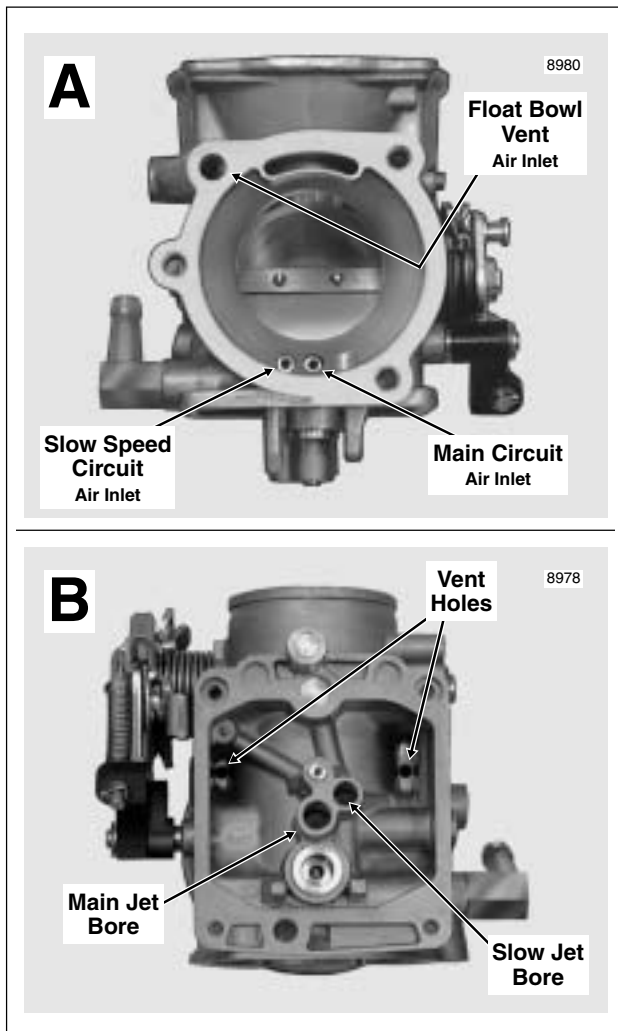

Figure 4-12. Clean Air/Fuel Passages
- a. Spray carburetor cleaner into air inlet hole of slow speed circuit. See A of Figure 4-12. While spraying, verify that solution exits slow jet bore at bottom of carburetor housing. See B of Figure 4-12. Placing gloved finger over slow jet bore, verify that solution exits four pin holes just inboard of the throttle plate, as well as the single pin hole outboard of the throttle plate.
- a. Plugging main jet hole in carburetor throat, spray carburetor cleaner into air inlet hole of main circuit. See A of Figure 4-12. While spraying, verify that solution exits main jet bore at bottom of carburetor housing. See B of Figure 4-12.
- a. Spray carburetor cleaner into air inlet hole of float bowl vent. See A of Figure 4-12. While spraying, verify that solution exits two holes in float bowl chamber at bottom of carburetor housing. See B of Figure 4-12.